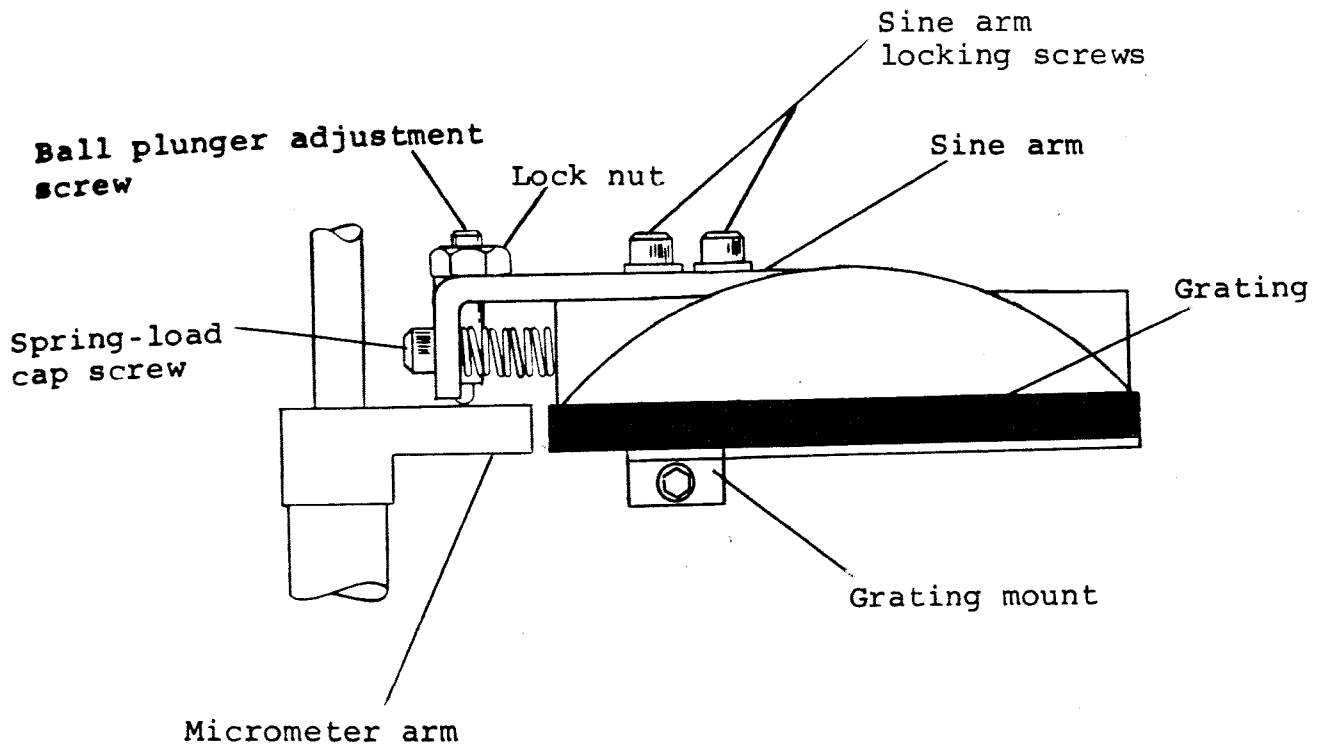

Figure 15. Ball plunger adjustment.
5. Visually check that the ball plunger on the sine arm is in line with the front surface of the grating, (See Figure 15).
10. Adjust the maximum intensity of the blue line. Release the two sine arm locking screws and adjust the length of the sine arm by rotating the spring-loaded cap screw, (See Figure 15).